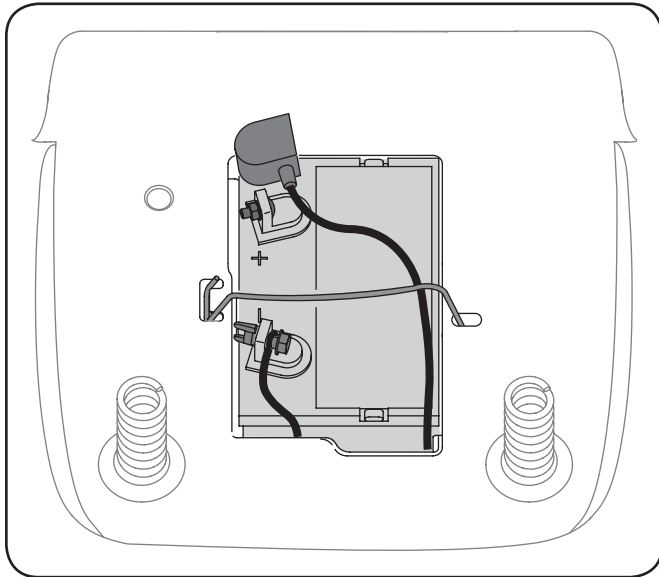

Figure 3-2
2. Remove the black plastic cover, if present, from the negative battery terminal and attach the negative cable to the negative battery terminal (-) with the bolt and wing nut. See Fig. 3-2.